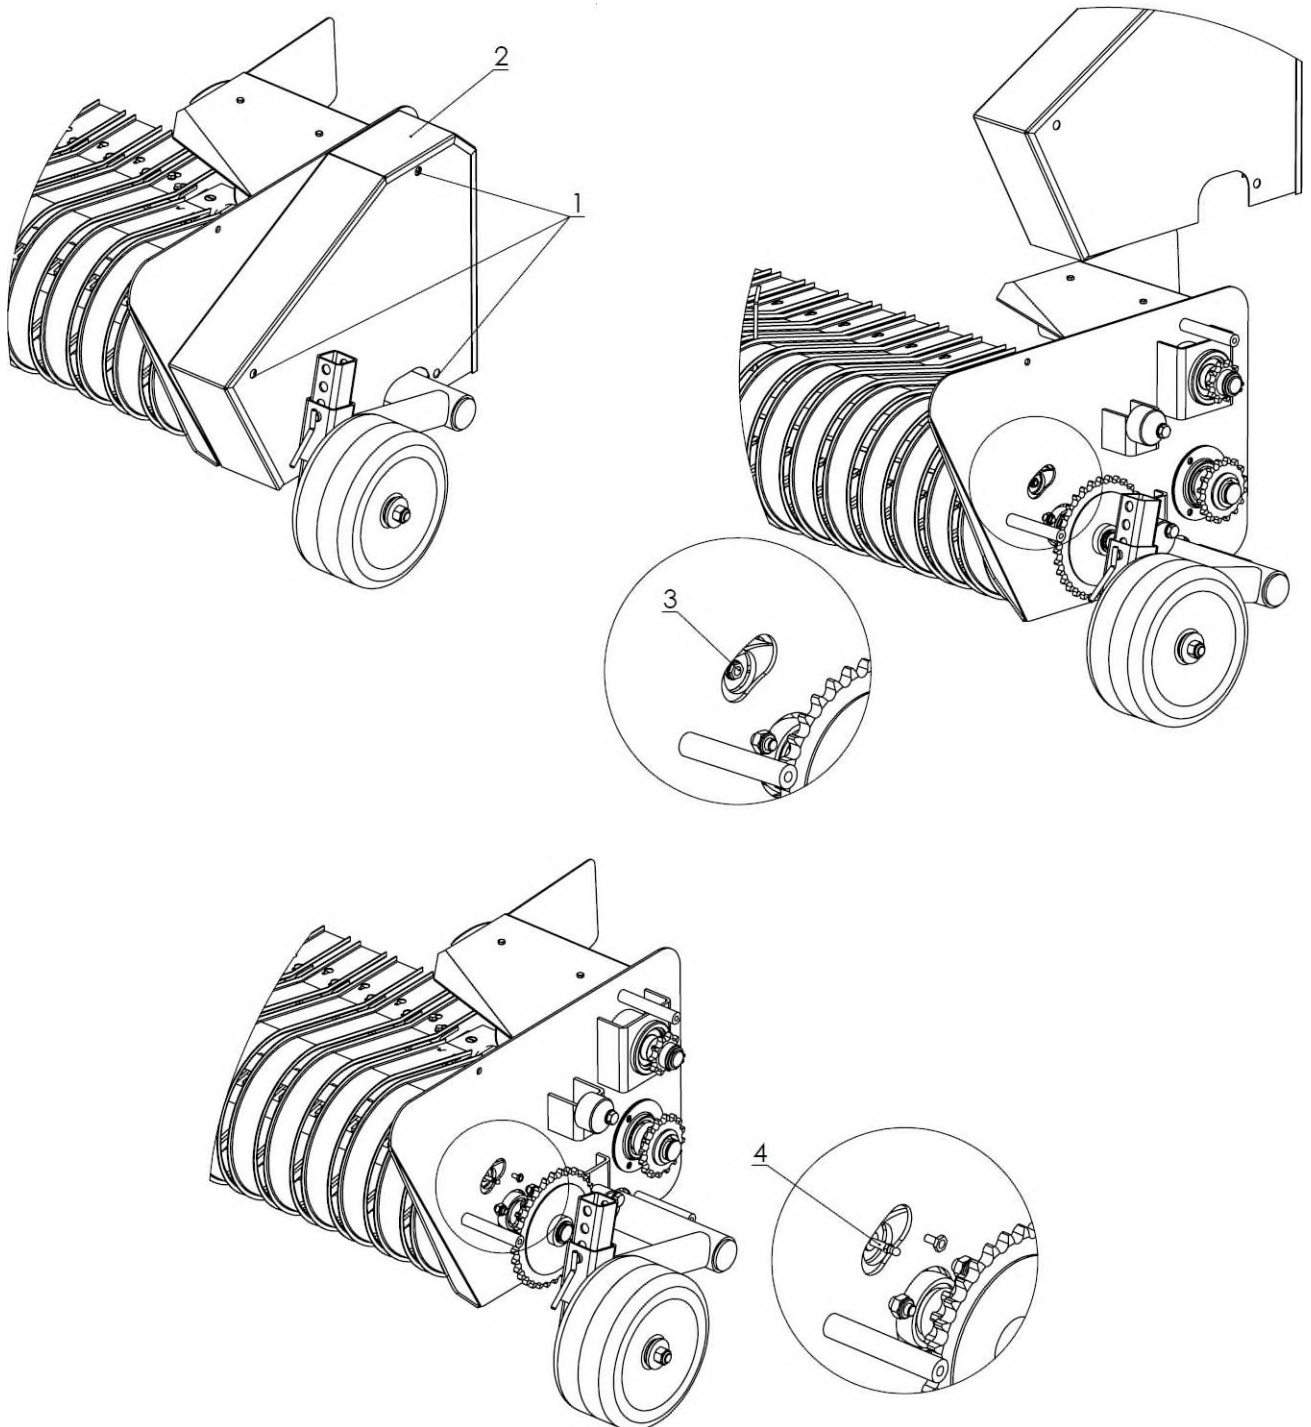

Figure 52. The lubrication points - the pick-up rollers
To lubricate the pick-up rollers (Figure 52) you must loosen three screws (1) to remove the cover (2). Next, remove the locking bolt (3) and screw in a grease nipple in its place (4). Apply the lubricate on the pick-up rollers. Remove the nipple and replace the locking bolt (3)